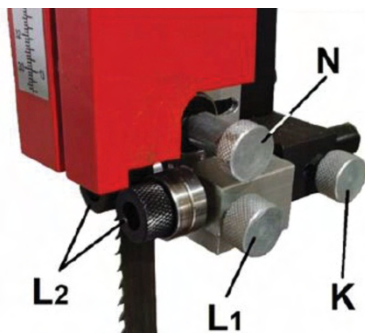

Figure 5-12: Blade Guide Adjustment
Refer to Figures 5-12 and 5-13.
4. Loosen the lock knob (K, Figure 5-12).
6. Tighten lock knob (K, Figure 5-12).
Refer to Figure 5-12.
2. Loosen the lock knob (N, Figure 5-12), and slide thrust bearing until it almost touches back of blade. (This blade-to-bearing gap can be set in similar fashion as the side guides, with business card or dollar bill.)